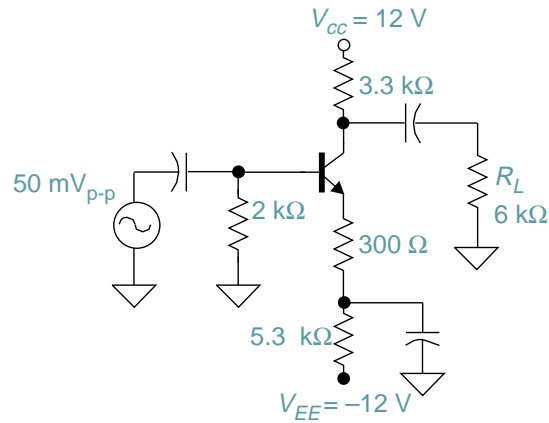

FIGURE 5-28
6. For the circuit in Figure 5-28, find: